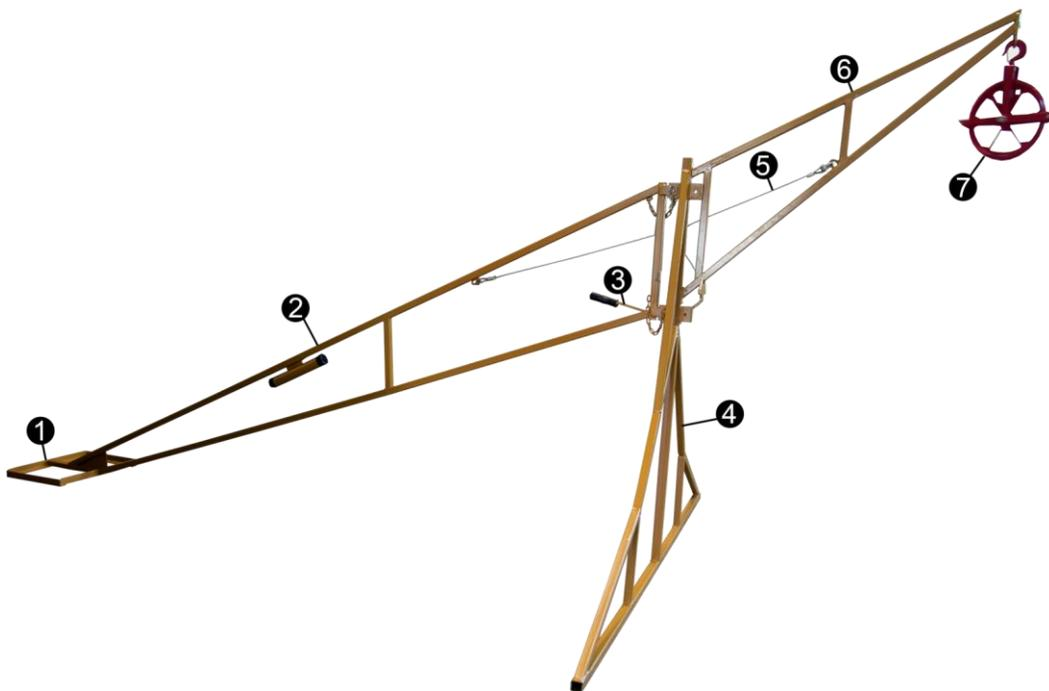
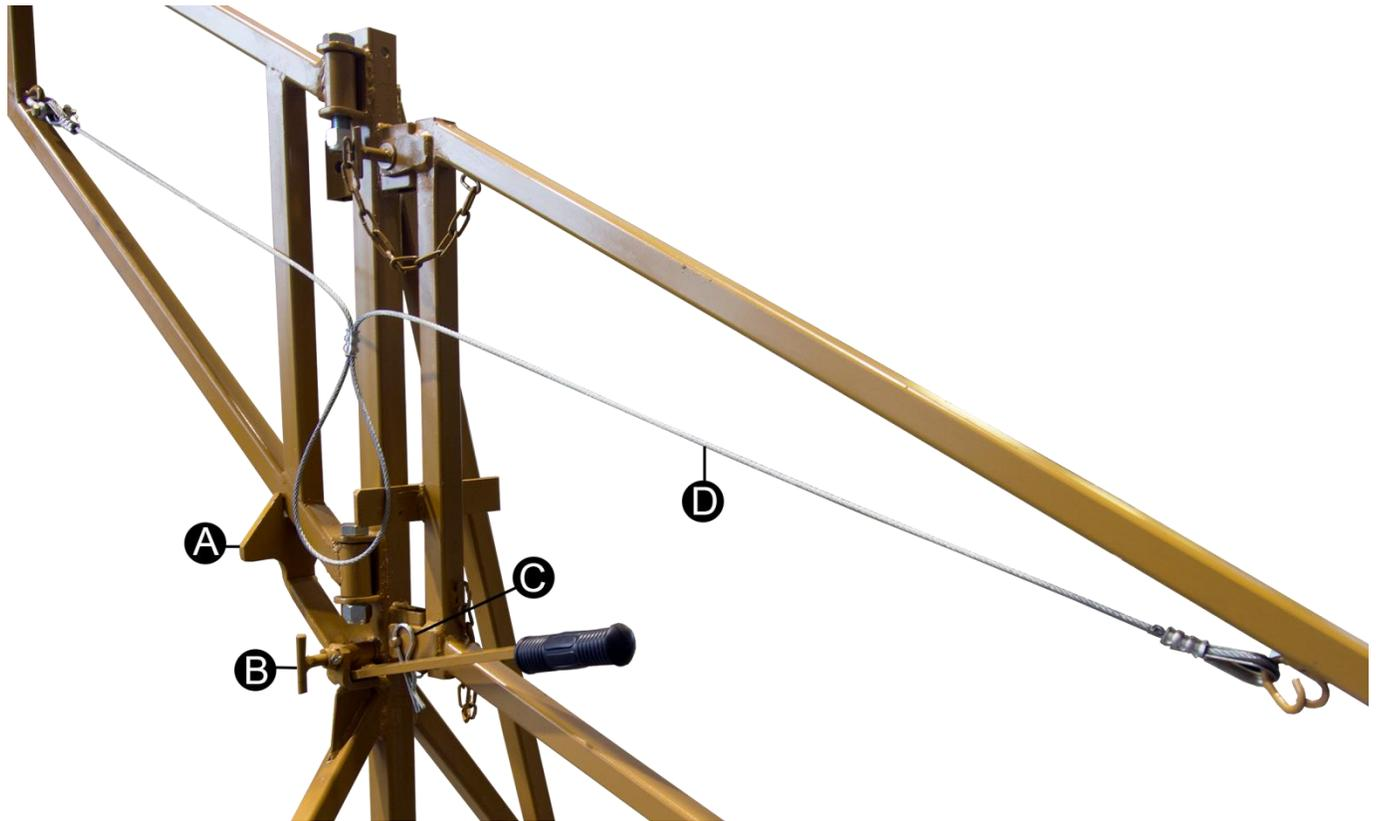

Figure 1
Figure 2
4. Before proceeding, the operator must decide which direction the hoist will swing. Once decided, it must be noted that the vertical boom (Figure 1, Part #4) can be attached from either side; this is what dictates the direction of swing.
- Two people are required for this next step. One person holds the vertical frame (Figure 1, Part #4); the other person must hold the rear weight frame (Figure 1, Part #2). These are then attached via 2 pins that are included. Once inserted, attach additional hitch-pins to prevent the securing pins coming loose.
**\*Note**, the Safety Pin (Figure 2, Part C) should be inserted as shown in Figure 2; so not to interfere with the usage of the Locking Handle. As stated before, the Vertical Frame can be attached on either side, changing the side in which the handle will be on.
- The Swing Boom (Figure 1, Part #6) is then attached to the Vertical Frame (Figure 1, Part #4) via supplied  $\frac{3}{4}$  x  $4 \frac{1}{2}$  " bolts and nylon lock nuts.
- Now insert the Locking Handle (Figure 2, Part A) into the Vertical Frame (Figure 1, Part #4) and then lock it into place via Lock-Pin (Figure 2, Part B). The Lock-Pin will then need to be secured with the  $\frac{1}{4}$  " nut and bolt.
- Attach the Pull Cable (Figure 2, Part D) to the Swing Boom (Figure 1, Part #6) using shackle. The opposite end will then be attached to the laplink onto Counter Weight Boom (Figure 1, Part #2).
- Attach Gin Wheel (Figure 1, Part #7) to the head of the Swing Boom via provided hook.